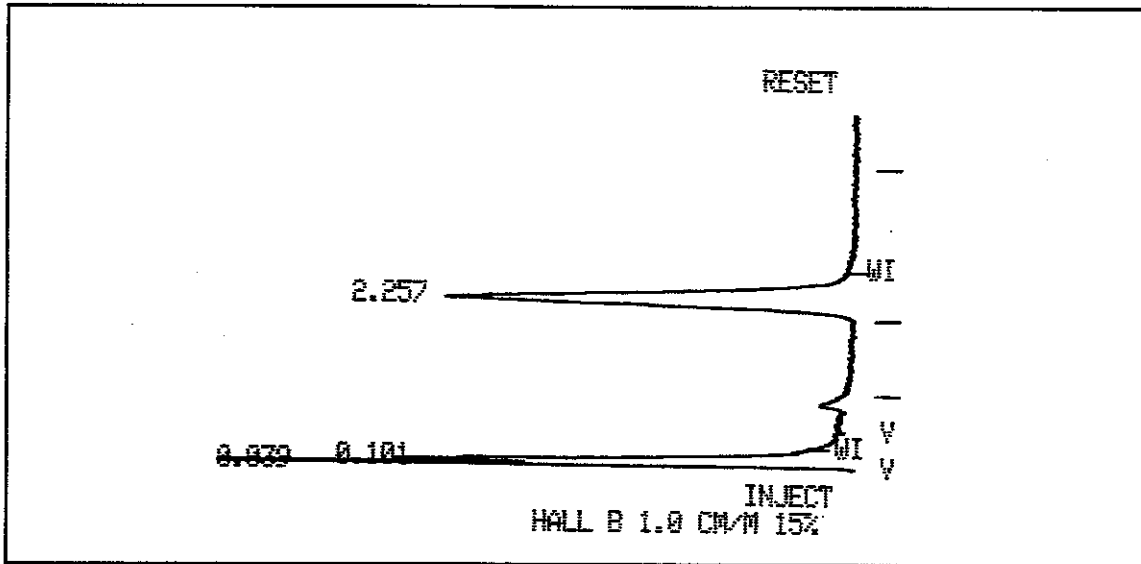

Figure 21a Packed Column (ELCD)
4. Compare the test chromatogram for peak separation, peak heights, and retention times with the chromatogram in Figures 21a-21c.